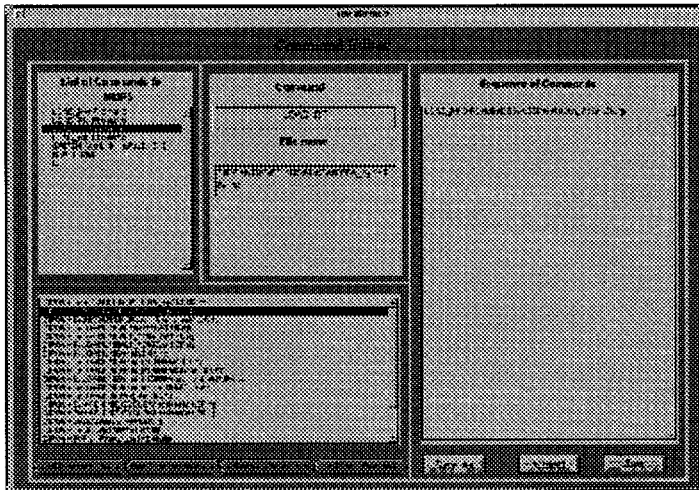

Fig. 16. Command editor sub panel
- This operation will initiate the command editor subpanel. The layout of the command editor subpanel can be understood from Fig. 16. It consists of four windows, four buttons for editing, two buttons for saving and one button for quit without saving (cancel).
- Initiate the command editor by clicking the mouse on the *new command file* button. This operation will initiate the command editor sub panel as shown in Fig. 16.